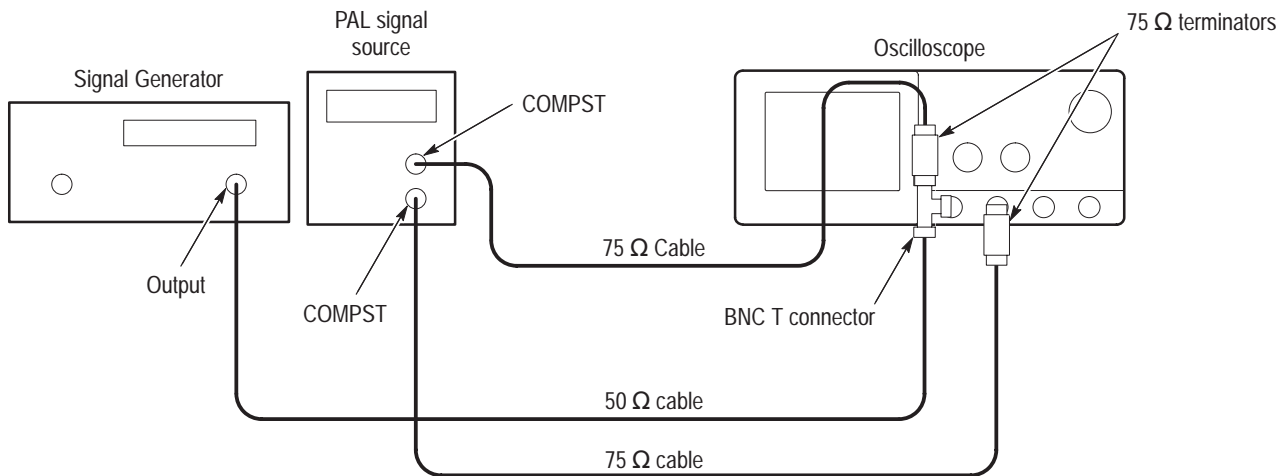

Figure 4–32: Subsequent 60 Hz Rejection test hookup
- Connect another composite signal connector of the PAL signal source (labeled **COMPST** on the TSG 121) through a $75\ \Omega$ cable and a $75\ \Omega$ terminator to the CH2 input. See Figure 4–32.
- **CONFIRM** that the **TRIG'D** LED stays lighted and that the waveform on screen is stable. In other words, be sure the waveform does not move horizontally or vertically. Also, confirm that the waveform on the screen has one positive pulse and a number of negative pulses. See Figure 4–33.